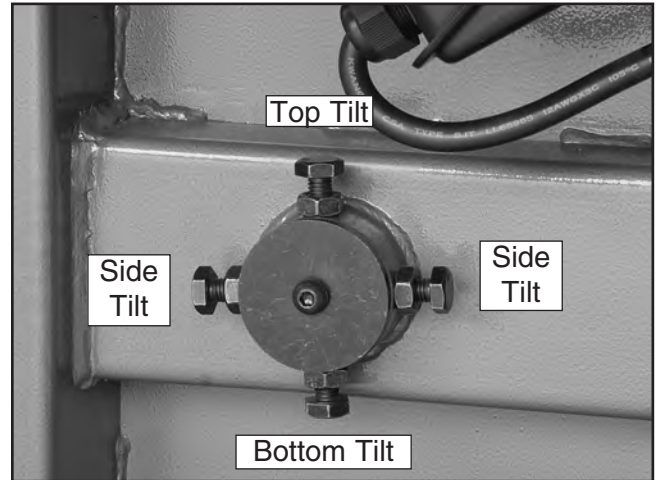

Figure 65. Lower wheel adjustment control.
- Adjust tracking knob to get both wheels parallel. If wheels won't go parallel to each other, then move lower wheel at adjustment hub (see **Figure 65**) so they line up.